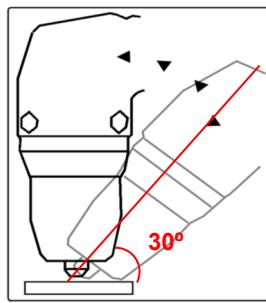

Fig. 3
- Should you need to make holes or begin cutting from the centre of the work piece, you must hold the torch at an angle ( 30°), and slowly straighten it so that the nozzle does not spray molten metal. This must be done when making holes in pieces more than 3 mm thick. See figure 3.